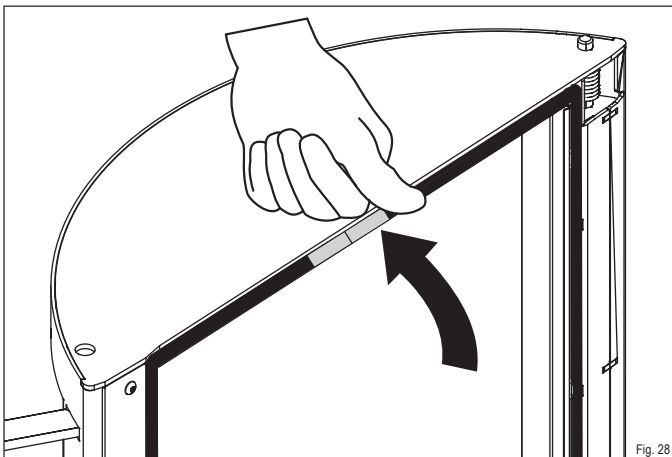

Fig. 28
- ▶ Also wrap this end in copper tape (Fig. 28) and push the seal into the rail (Figure 24)